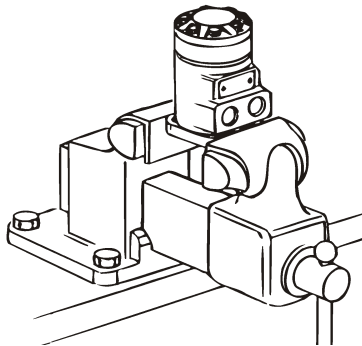

Figure 5-20, Motor Clamping
2. Place the motor in a vice and clamp across the edge of the flange with output shaft down. When clamping, use a protective device on the vise such as special soft jaws, pieces of hard rubber or board. (Figure 5-20)